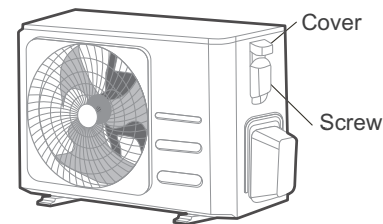

Fig. 18 —Remove Panels and Electrical Wiring Cover (All Sizes)
2. Remove the 2 screws on the front and side panels. Take it down to perform wire connection. See Fig. 18.
Unscrew the electrical wiring cover and remove it. See Fig 18.